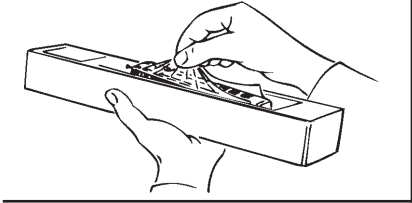

Fig. 2
**Fittings:** Operation is possible with different couplings (fig. 2). We recommend using the Roco close coupling.
**Attention!** Use glue only if indicated (fig. 2+3).